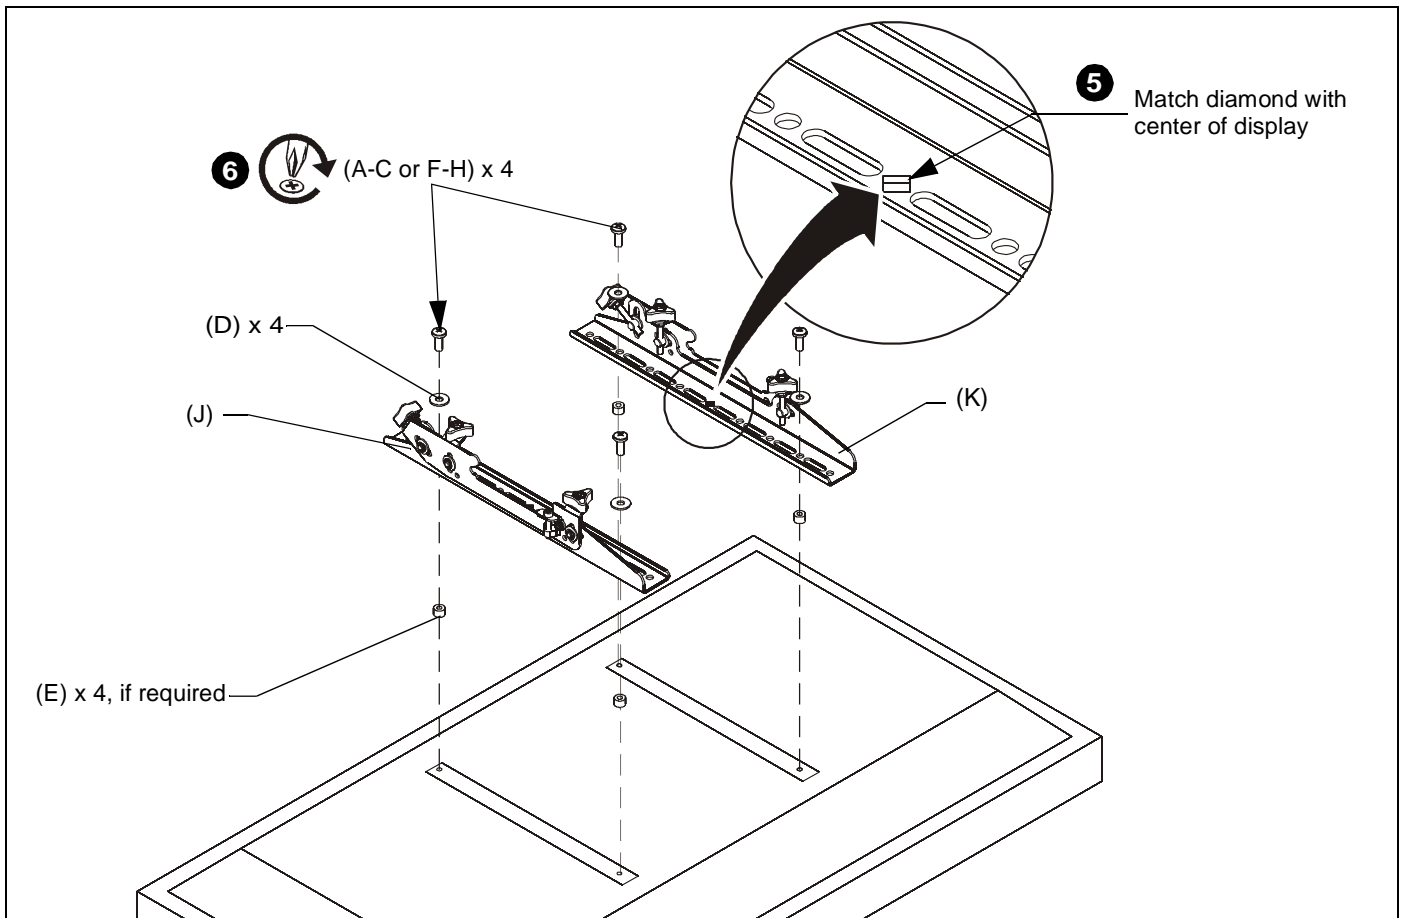

Figure 6
- Select screw *diameter* by examining hardware (A-C and F-H) and comparing with mounting holes on display. (See Figure 6)
- Spacers (E) **ARE** required if mounting holes are recessed, or if protrusions prevent interface brackets (J and K) from laying flat.
- Select screw *length*: (See Figure 6)
- By hand, insert **SHORTEST** length screw of selected diameter (A or F) through 1/4" washer (D), bracket (J or K), selected spacer (E, if required), into display mounting hole. Do **NOT** thread screw into hole at this time.
- Align the center of the interface brackets (J and K) with center of screen. (See Figure 6)
- Use selected screws (A-C or F-H), washers (D) and spacers (E), if necessary, to connect interface brackets (J and K) to back of display. (See Figure 6)